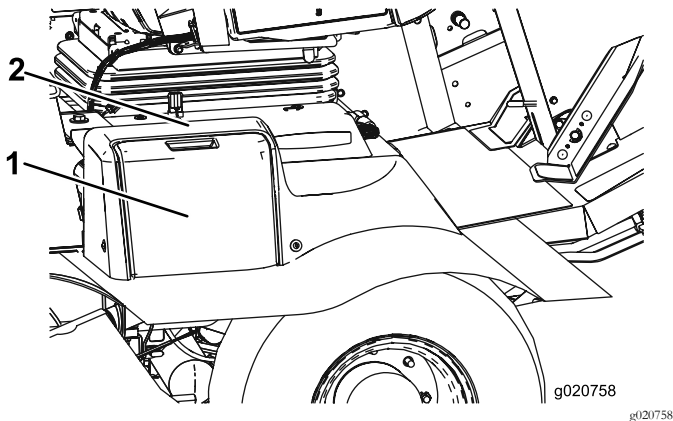

Figure 51
1. Open the battery cover (Figure 51) on the side of the shroud.
**Note:** Press down on the flat surface above the battery cover to make removing the cover easier (Figure 51).